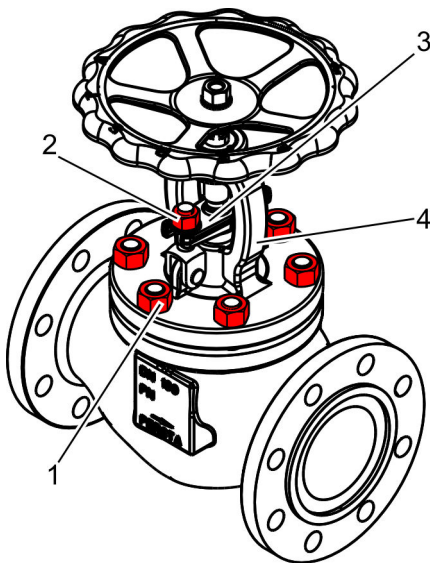

Fig. 35: Screwing on nuts
34. Loosely screw the nuts (Fig. 35/1) with the stud bolts into the body.
Tighten the nuts (Fig. 35/1) on the bonnet (Fig. 35/4) cross-wise as specified by the manufacturer.
Tighten the nuts (Fig. 35/2) on the gland follower flange (Fig. 35/3) as specified by the manufacturer.